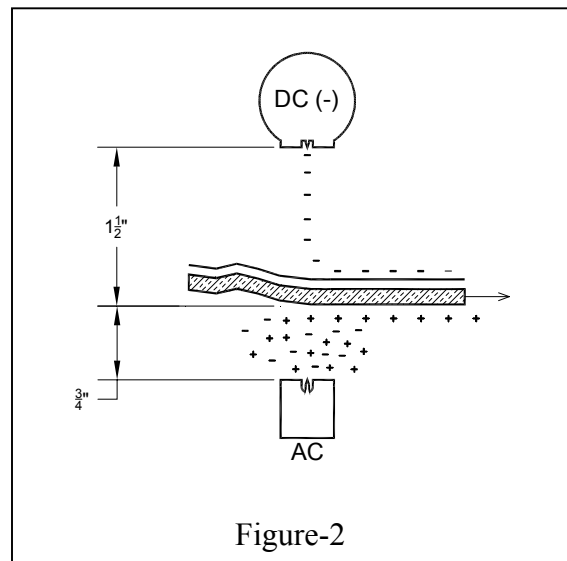

Figure-2
2. **Charging Bar with Static Neutralizing Bar** In Figure-2, the